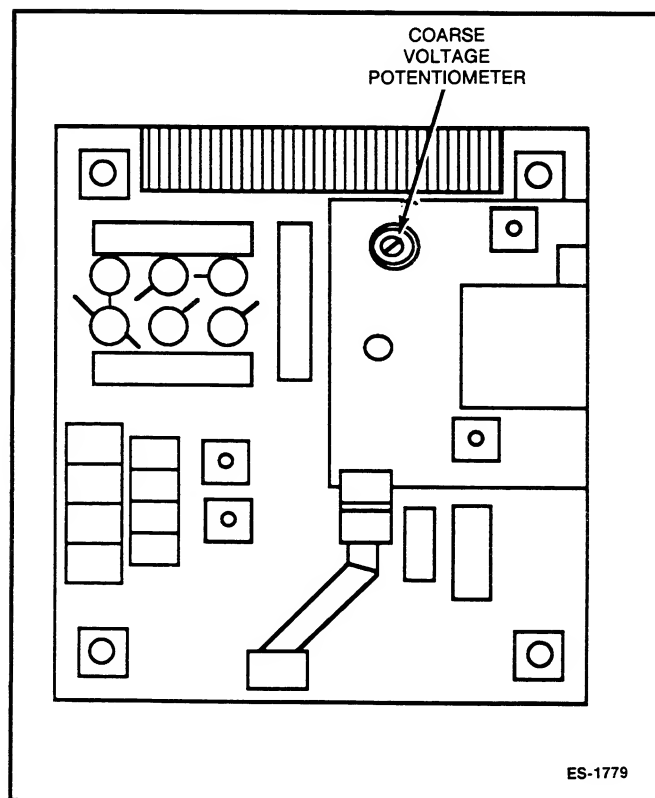

FIGURE 8-7. VOLTAGE REGULATOR
2. Remove the cover from the voltage regulator housing, located on the engine side of the generator conduit box (see Figure 8-7).
3. With the generator set operating, and the voltage being monitored (either by meters on the set or with remote metering), adjust voltage regulator board Coarse Voltage Potentiometer to the desired generator voltage (see Figure 8-7).